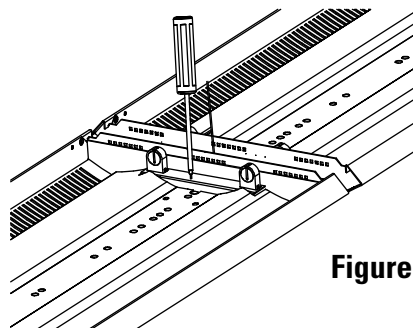

Figure 4
- Tighten down each of the set screws in both fixtures. (Fig. 4)